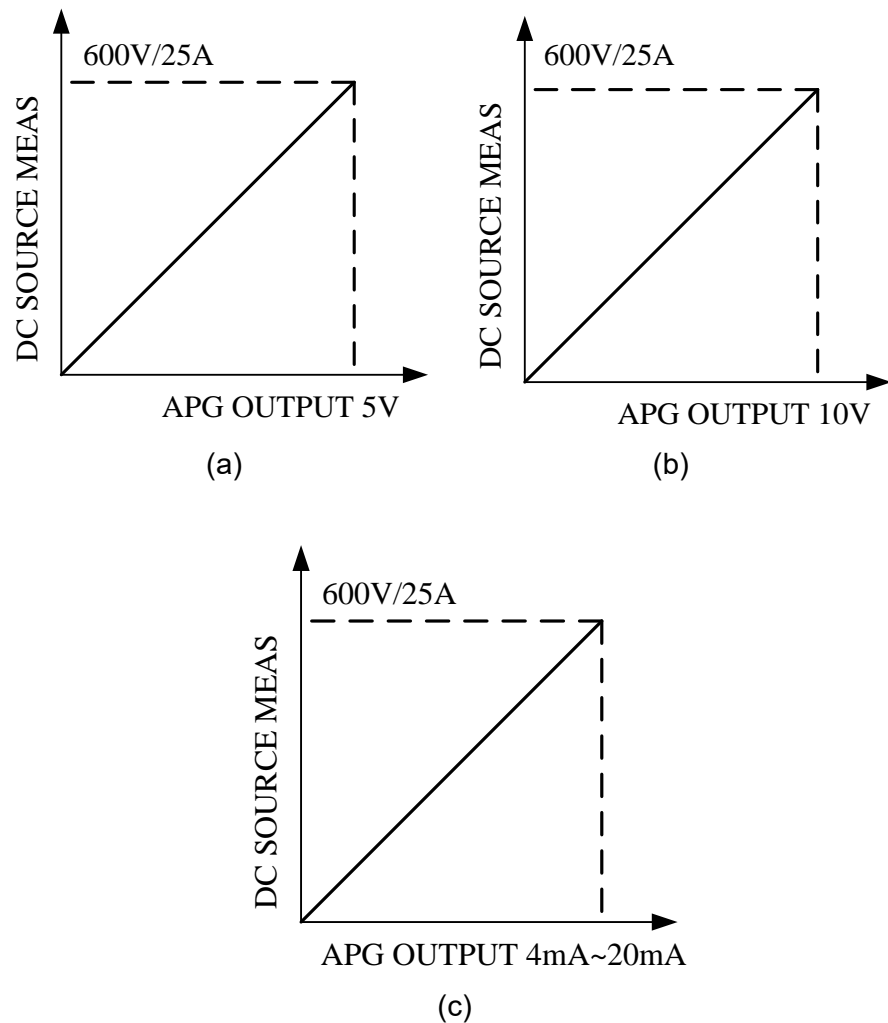

Figure 3-8
- a. When selecting $V_{ref}=5V$ → it means the DC Power Supply's measurement output $0 \sim 600V/0A \sim 25A$ will map to $0\sim5V$ as Figure 3-8 (a) shows.
- b. When selecting $V_{ref}=10V$ → it means the DC Power Supply's measurement output $0 \sim 600V/0A \sim 25A$ will map to $0\sim5V$ as Figure 3-8 (b) shows.
- c. When selecting $I_{ref}=4\sim20mA$ → it means the DC Power Supply's measurement output $0 \sim 600V/0A \sim 25A$ will map to $4mA\sim20mA$ as Figure 3-8 (c) shows.